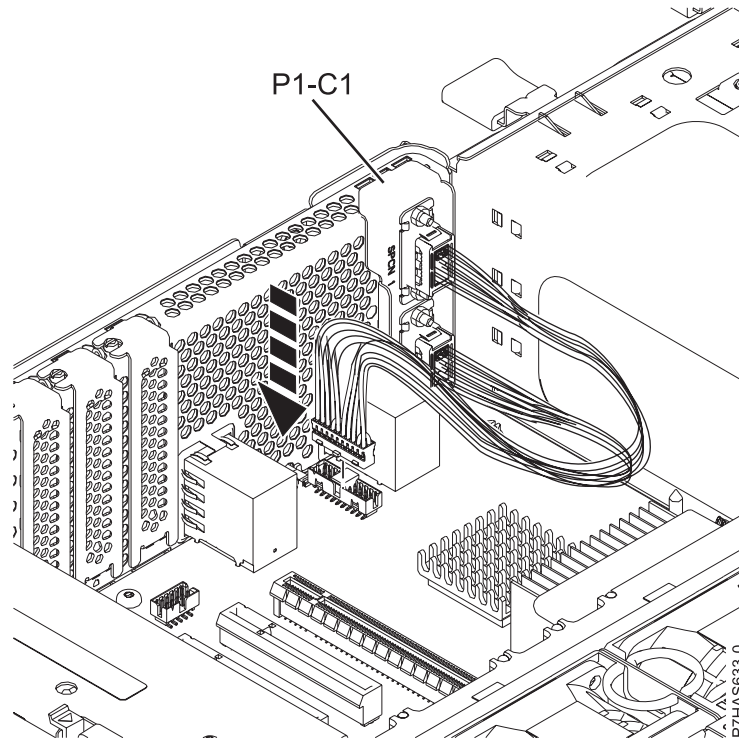

Figure 9. Replacing the SPCN cable assembly
- Carefully grasp the FC EJ0G 2-port SPCN cable assembly (C) shown in Figure 9 on page 11 by the top of the tailstock bracket, and align it with the GX slot 1 (P1-C1) opening in the rear of the chassis.
- Plug the other end of the cable into the connector on the system backplane, as shown in Figure 9 on page 11.